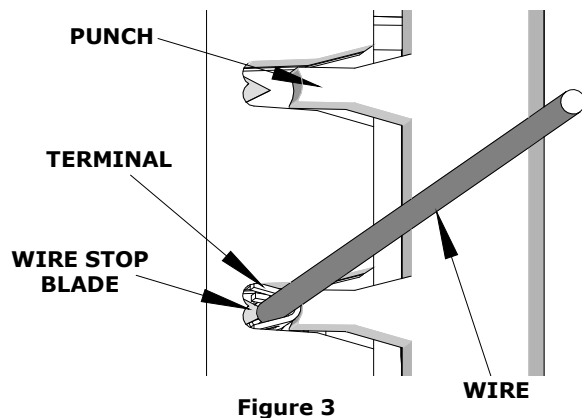
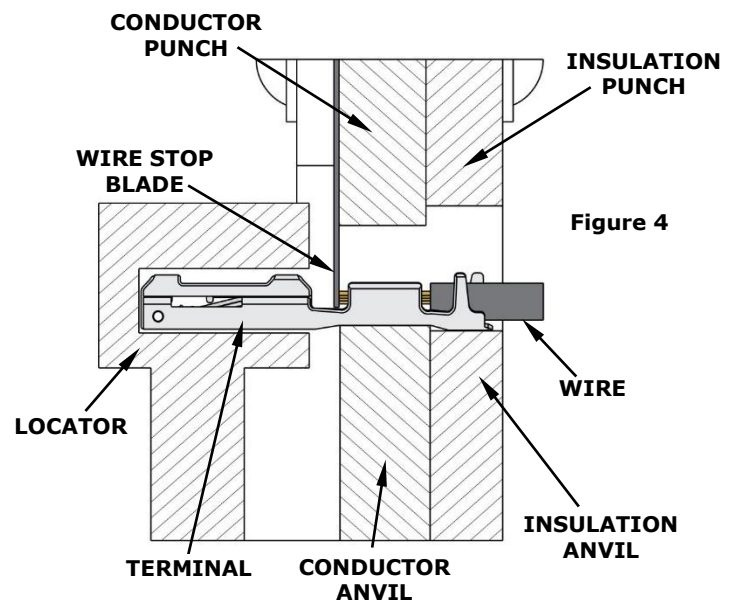

Figure 3
Figure 4
6. Slide the pre-stripped wire into the terminal. Make sure to aim the wire brush toward the tip point on the wire stop blade. See Figure 3. Align the wire so that it is parallel and sitting into the terminal. Maintain a light and constant pressure on the wire that is seated in the terminal at all times. (Do not let go of the wire.) Be sure to hold the wire and terminal in place until the terminal is fully crimped. See Figure 4.